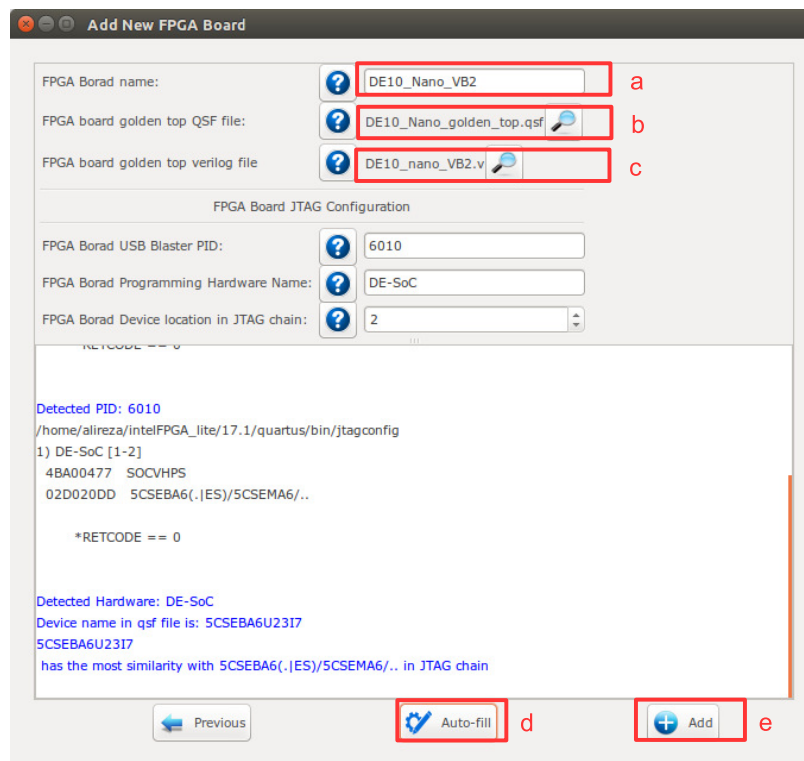

Figure 5.25: Add new FPGA board to ProNoC.
4. If you selected Add New Board, a new window as shown in Figure 5.25 must be appear. Fill the required fields as follows: